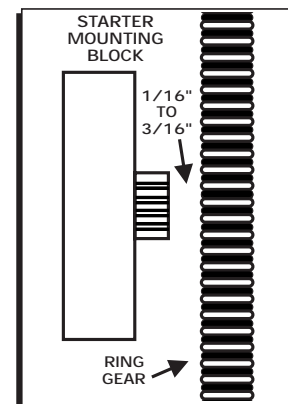

Figure 2 Checking Pinion Clearance.
4. With the starter installed, check the clearance between the ring gear and the face of the pinion gear (Figure 2). There should be at least 1/16" and no more than 3/16" clearance. It is recommended to check this clearance in at least three places around the flex plate.